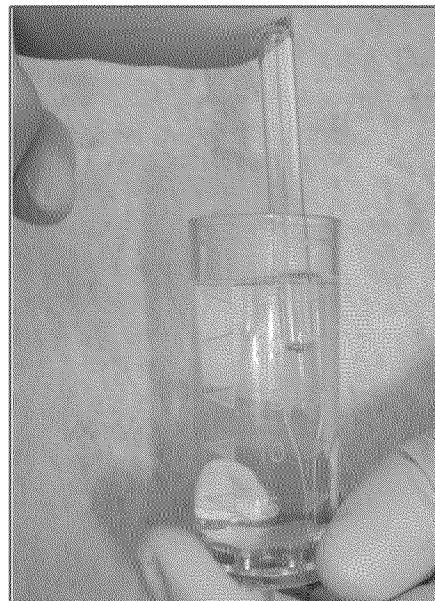

Figure 13. Snapping the Tip of the Ampoule on the Side of the Cup
- d Submerge the tip of the ampoule into the sample AND snap the tip of the ampoule against the side of the cup as shown in Figure 13. The ampoule should fill with sample, leaving a small bubble to help mix the ampoule contents.